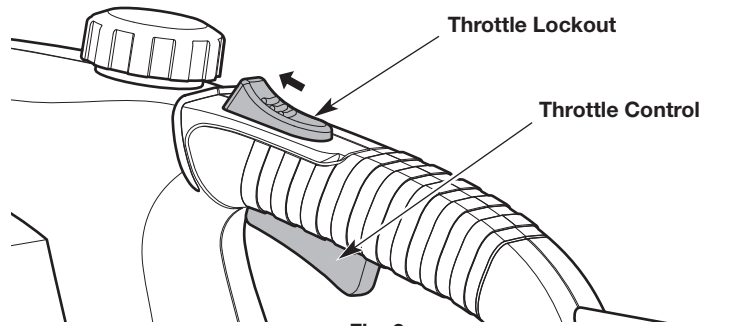

Fig. 2
1. Press and hold the throttle lockout (Fig. 2).
2. Continue to hold the throttle lockout. Squeeze and hold the throttle control to start the unit (Fig. 2).
1. Release the throttle control and wait for all moving parts to come to a complete stop (Fig. 2).